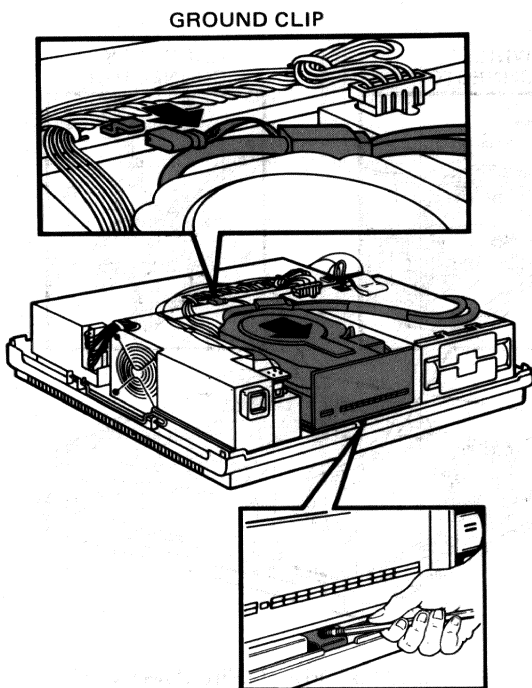

Figure 5-18 Ground Clip and Hard Disk Drive Removal
2. Unplug the ground clip of the hard disk drive cable from the power supply (Figure 5-18).
3. Press the latch with a pencil and slide the hard disk drive forward (Figure 5-18).